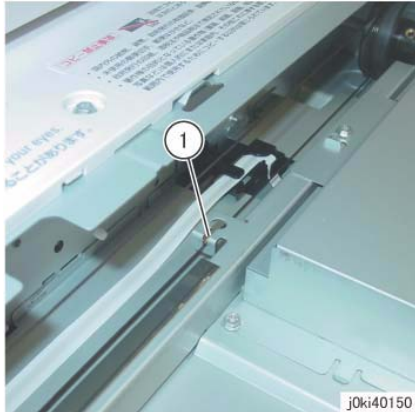

Figure 3 Remove the Carriage Cable
7. Remove the Carriage Cable. (Figure 3)